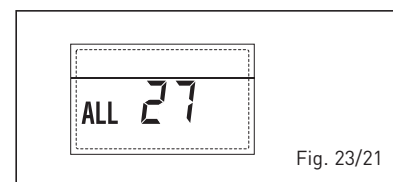

Fig. 23/21
– **COMPATIBILITY INPUT (S3) ANOMALY ONLY FOR SYSTEM 7 “ALL 28” (fig. 23/22)**